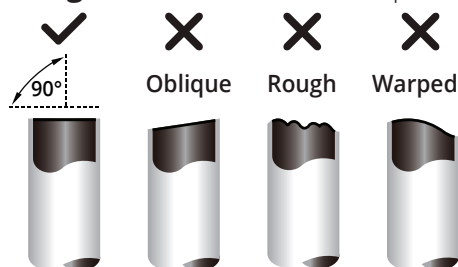

Fig. 6.3
- Ensure the pipe is cut at a perfect 90° angle. Please refer to **Fig 6.3** below for cut examples.